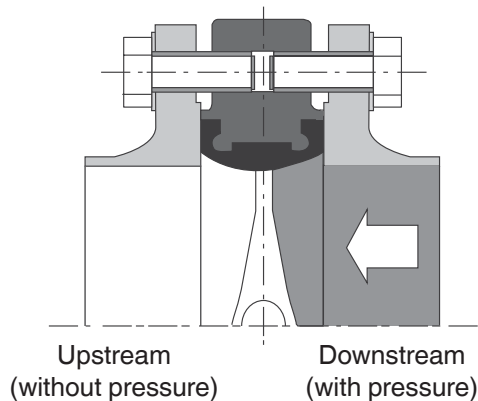

Figure 5: First installation step
3. Loosen all screws diagonally on the side behind the valve (see figures 5 - 7).